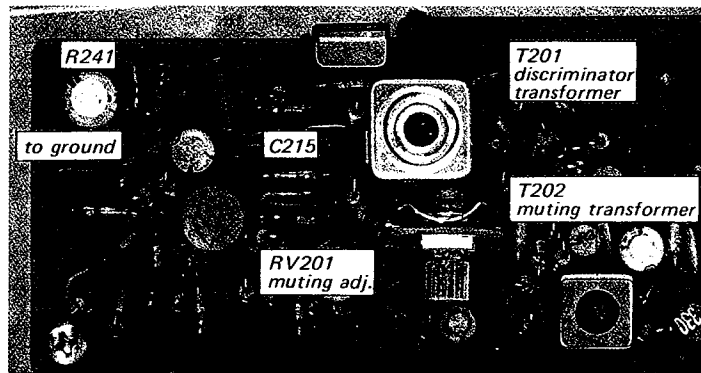
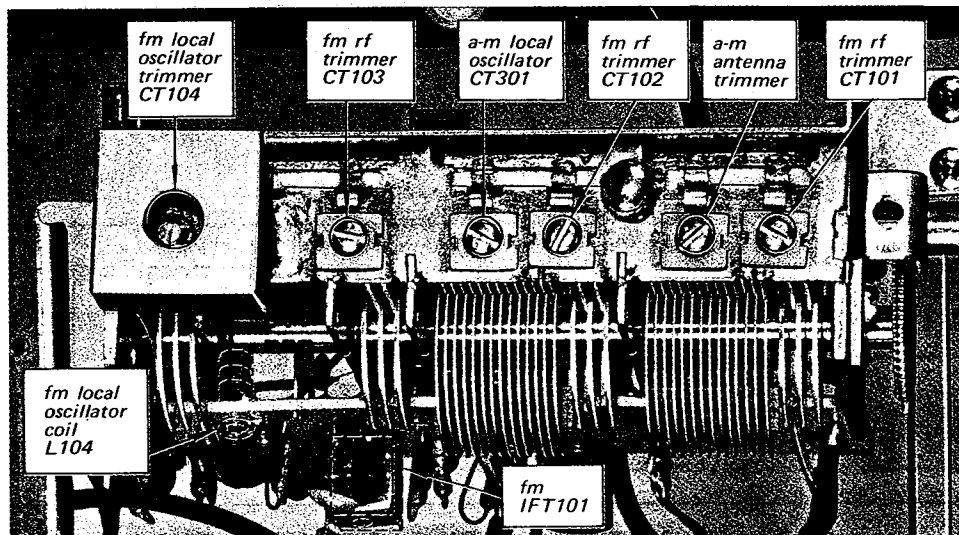

Fig. 3-2. Interruption of afc circuit and parts location
Fig. 3-4. Parts location
5. Short the connection point of R242 and C215 (AFC circuit) to ground as shown in Fig. 3-2.
3. Turn the core of transformer IFT101 or T201 (bottom core) (See Fig. 3-2 or Fig. 3-4) with the alignment tool to obtain maximum output.
3. Short the connection point of R242 and C215 (AFC circuit) to ground as shown in Fig. 3-2.
3. Turn the top core (secondary side) of discriminator transformer T201 (see Fig. 3-2) with a hex-head alignment tool to obtain a null-point reading on the tuning meter. If the discriminator transformer (T201) is not aligned correctly, some deviation on the tuning meter will be observed.
- Turn the knob of RV201 (see Fig. 3-2) fully clockwise on the fm i-f and discriminator board.
- Short the connection point of R242 and C215 (AFC circuit) to ground as shown in Fig. 3-2.
4. Short the connection point of R242 and C215 (AFC circuit) to ground as shown in Fig. 3-2.
1. Short the connection point of R242 and C215 (AFC circuit) to ground as shown in Fig. 3-2.
3. Check the dial scale for a calibration accuracy of ± 200 kHz from the carrier frequency of the station. If the dial-accuracy deviation exceeds this limit, turn the local-oscillator coil L104 slightly as shown in Fig. 3-4 until optimum dial calibration is obtained.
4. Tune the receiver to the highest-frequency station in your locality. If the dial-calibration error is excessive, adjust local-oscillator trimmer CT104 (see Fig. 3-4) to obtain maximum calibration accuracy.